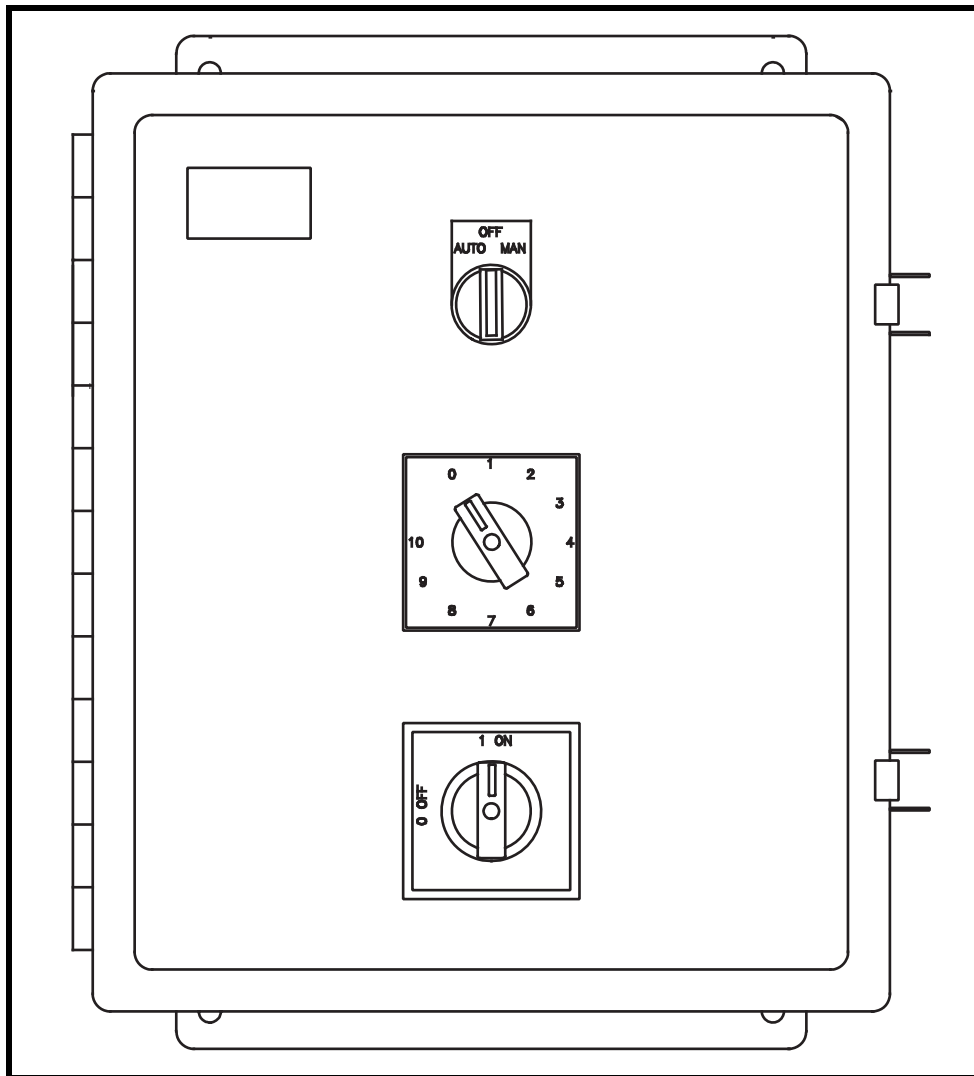

Figure 4. Sonic Horn Controller Door
1. To manually cycle sonic horns 1 through 10, turn selector knob on door of controller enclosure to number of horn you wish to cycle. Turn HAND-OFF-AUTO knob to HAND (see Figure 4), hold to cycle horn, and release. (Selected horn will cycle and knob will return to OFF automatically.)